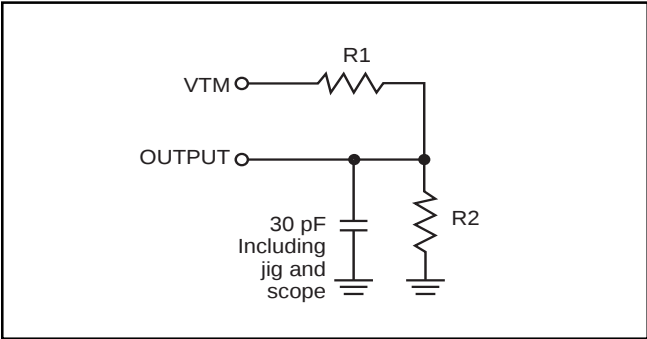

Figure 1
- Test conditions assume signal transition times of 5 ns or less, timing reference levels of 0.9V/1.5V, input pulse levels of 0.4 to $V_{DD}-0.2V/V_{DD}-0.3V$ and output loading specified in Figure 1.
1. Test conditions assume signal transition times of 5 ns or less, timing reference levels of 0.9V/1.5V, input pulse levels of 0.4V to $V_{DD}-0.2V/V_{DD}-0.3V$ and output loading specified in Figure 1.